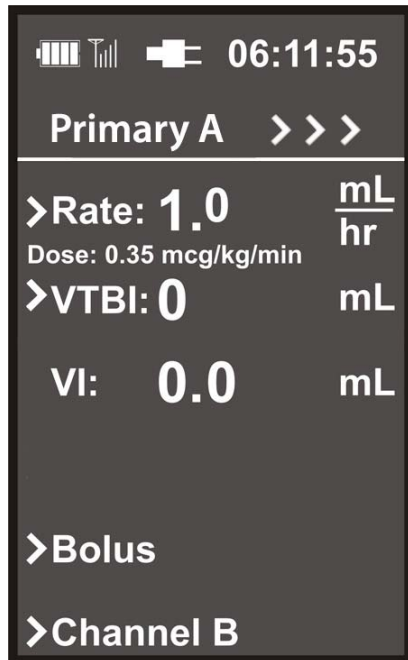

Figure 4-8. Primary Screen with Dose Rate Displayed
- r. The rate will automatically be calculated and the **Ready to Start (A) or (B)** prompt will appear.
- t. Press the START/STOP Channel control key. The Main running screen will display with the correct parameters from the Dose Rate calculation screen with the Dose value displayed between the Rate and VTBI parameters (See Figure 4-8).